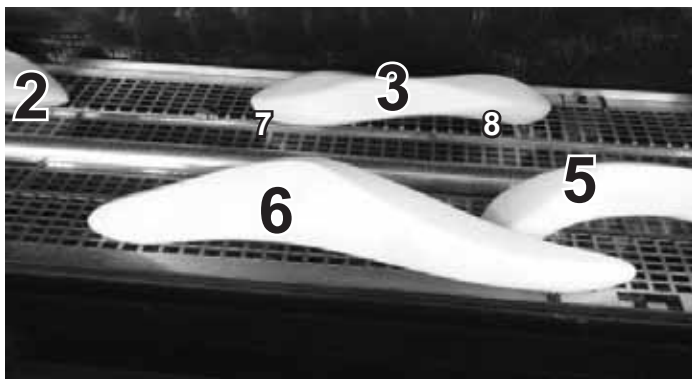

Figure 8. (SRV2310-753)
9. **(SRV2310-753):** Install Log #3 onto shoulder screws #7 and #8 by aligning the log placement holes with the shoulder screws. See Figure 8.